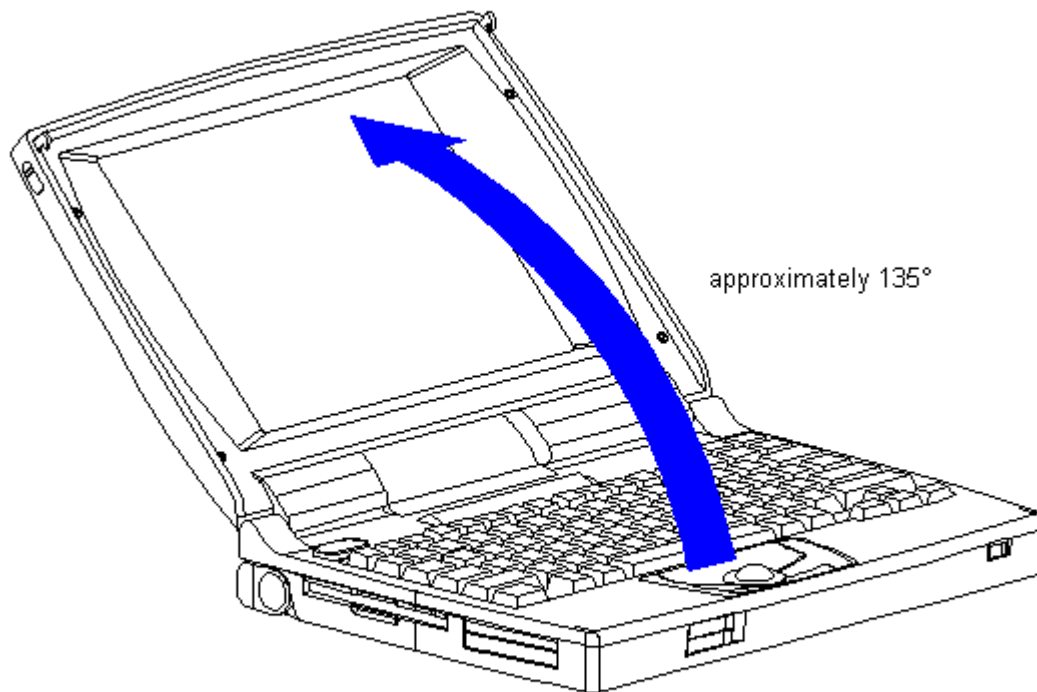

Figure 3-19. Opening the Display to a 135-degree Angle (All Models)
5. Carefully, turn the computer top-side up and open the display to its fully opened position (135-degree angle) (Figure 3-19).